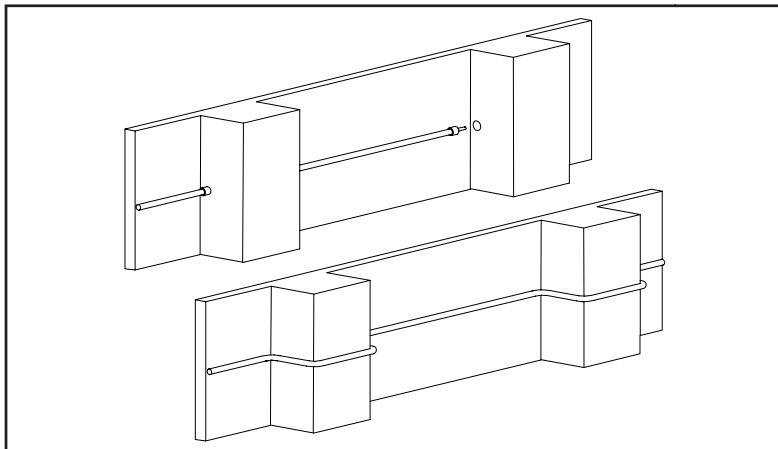

Figure 21
5. Where the sensor is required to protect surfaces where obstructions are present such as wall pillars or supporting steelwork, the simplest method of maintaining a straight run of sensor and conduit is to drill through the obstruction with a 10 mm hole and butt the ends of the conduit up to the hole, having first placed rubber bushes on each end of the conduit. It is not necessary to pass the conduit through the hole. If it is not possible to drill through the obstruction, then the conduit must be fixed round the obstruction using smooth bends and straight couplings. Figure 21 shows typical examples.